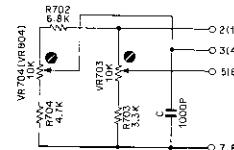

Fig. 6.2.5 Cal. A P.C.B.
(2) For EX Tape
- Feed in 10 kHz and 400 Hz (-20 dB), then record and play it back. If the level at 20 kHz is higher than the level at 400 Hz over 3 dB, mount an additional capacitor (C: 1000 pF) as shown in Fig. 6.2.5 to compensate the overall frequency response.